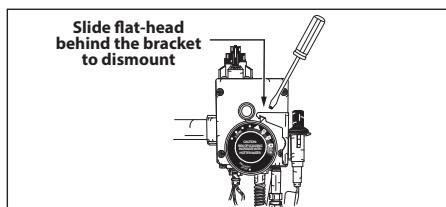

Figure 48 - Igniter with bracket dismount
- 1** Remove the igniter with the igniter bracket by sliding a 1/4" flat-head screwdriver behind the top of the igniter bracket and gently remove allowing the igniter to hang freely off to the side of the unit. (See Figure 48).
7 Reinstall the igniter with bracket and reconnect both wire leads that go to the thermal switch (See Figures 48 and 51).